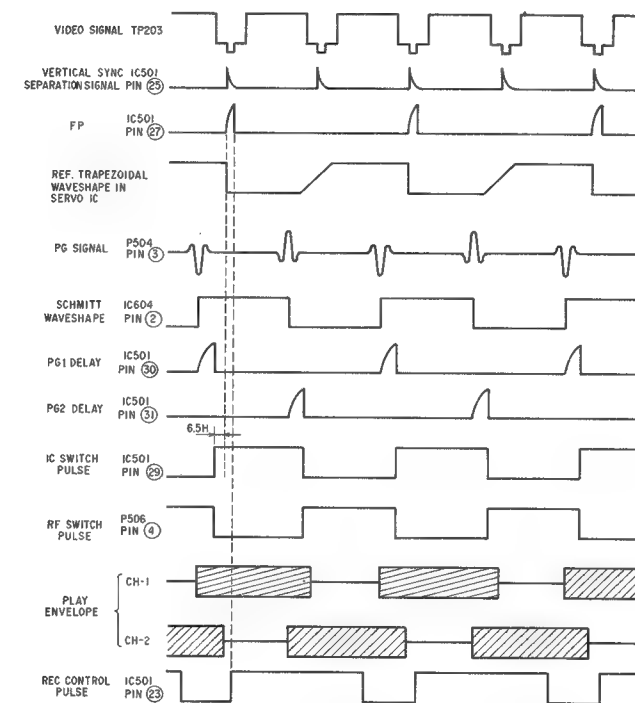
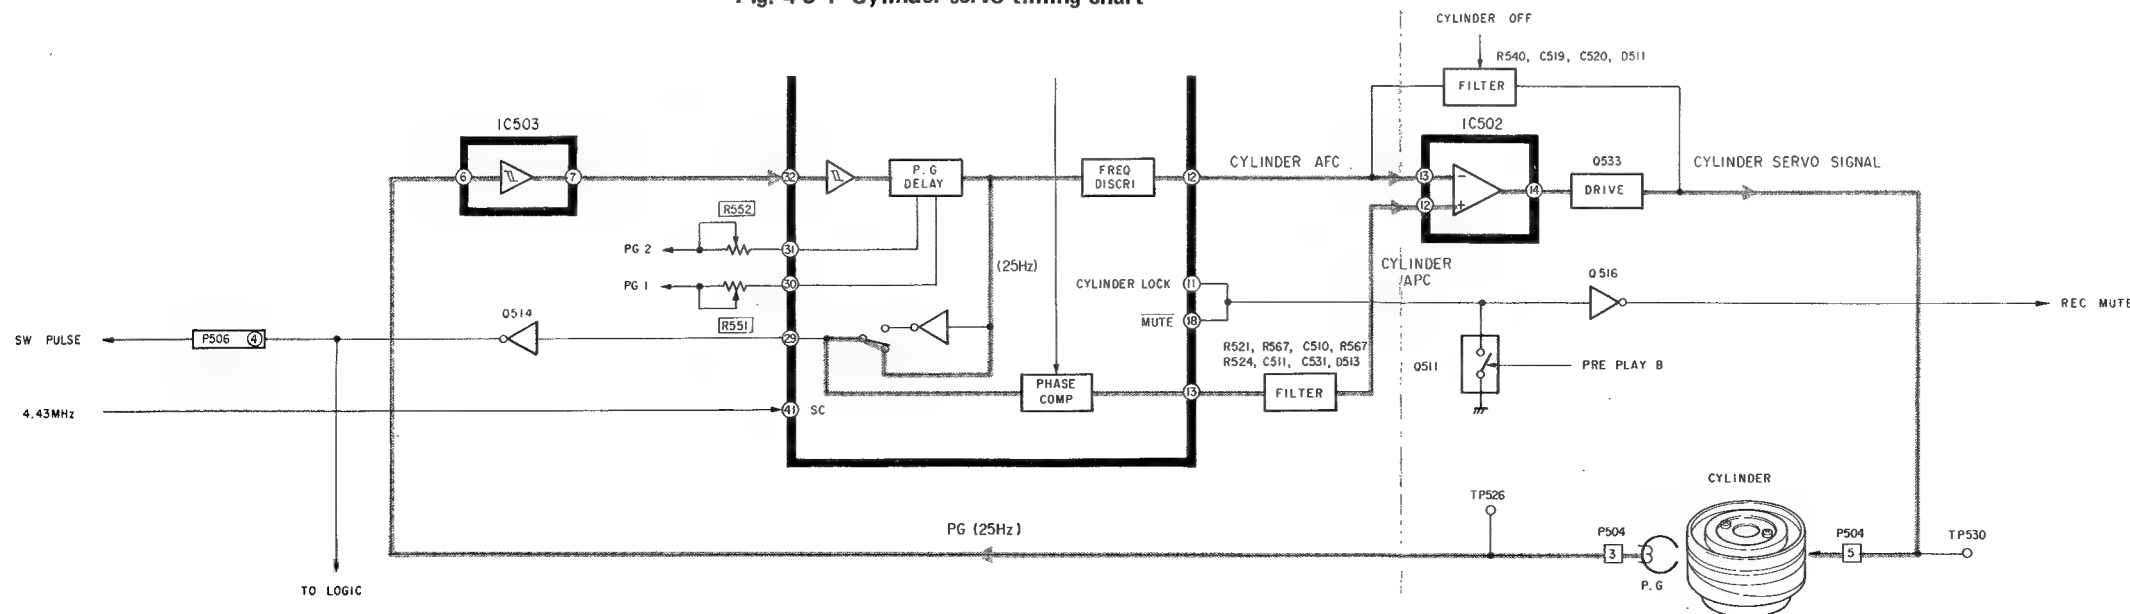

Fig. 4-5-1 Cylinder servo timing chart
Fig. 4-5-2 Cylinder servo block diagram
- 1) The PG pulse is created by detecting rotation of the PG magnets mounted on the lower part of the cylinder with the fixed PG heads. When the servo is locked, the PG pulse is set approx. 0.9 msec before head switching point. Fig. 4-5-2 shows the block diagram and Fig. 4-5-1 shows the timing chart.